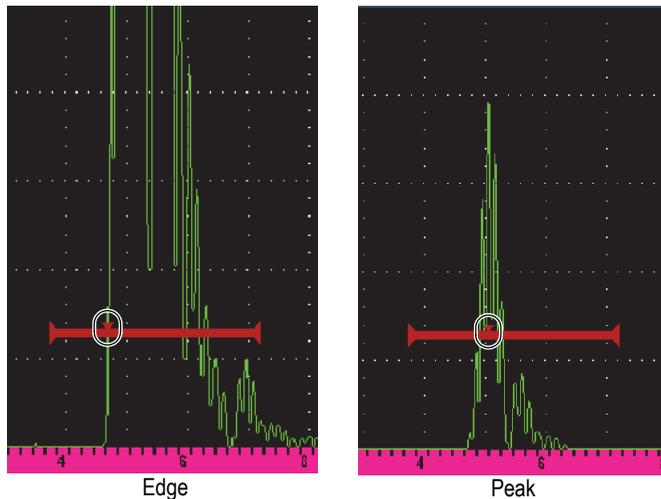

Figure 3-10 Trigger in Edge and Peak modes
- **Edge:** Acquires measurement readings based on the position of the first crossing point of a gated signal (see Figure 3-10 on page 60).
- **Peak:** Acquires measurement readings based on the highest peak within the gated region (does not have to cross the gate threshold). See Figure 3-10 on page 60.